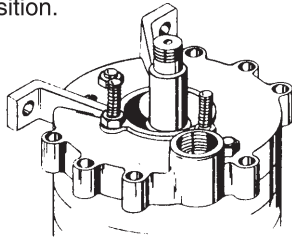

Figure 4-11
19. Install two nuts (#20A) onto the guide rods and tighten enough to hold the entire assembly in place. (refer to figure 4-11) Do not try to tighten them to their final position.